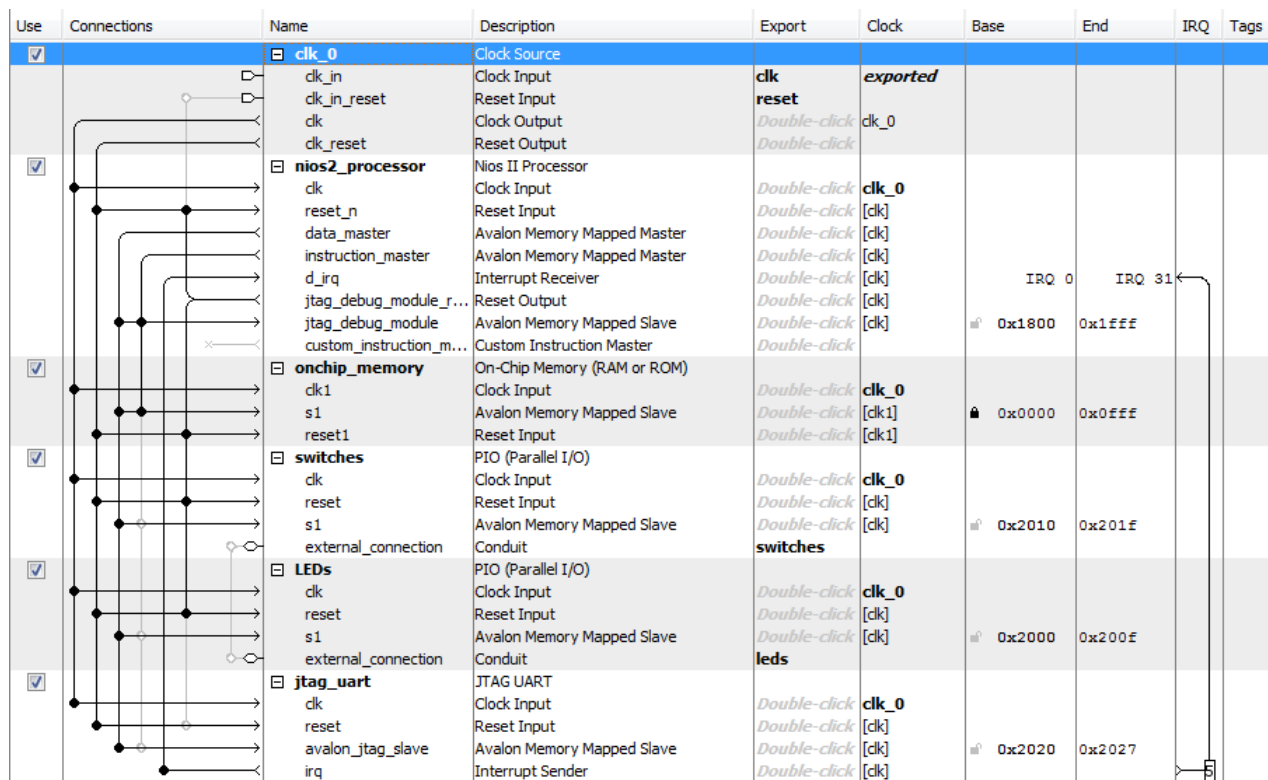

Figure 19. The complete system.
14. So far, we have specified all connections inside our *nios_system* circuit. It is also necessary to specify connections to external components, which are switches and LEDs in our case. To accomplish this, double click on Double-click to export (in the Export column of the System Contents tab) for *external_connection* of the switches PIO, and type the name *switches*. Similarly, establish the external connection for the lights, called *leds*. This completes the specification of our *nios_system*, which is depicted in Figure 19.